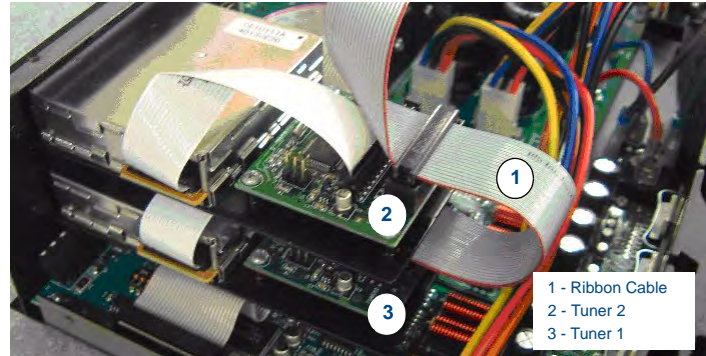

FIG. 14 Dual Tuner Cable Connection
- FIG. 14 provides a view of the inside of the controller, with two tuners installed.